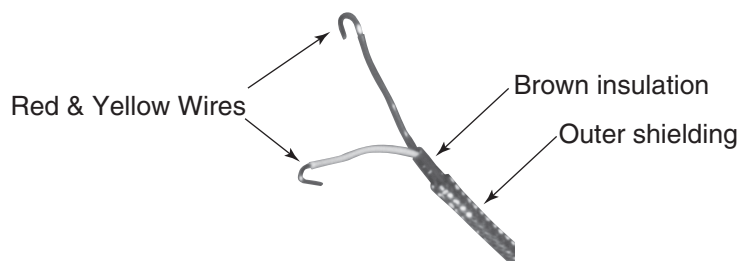

Figure 4. Wires ready for connector
- Bend the bare wire to fit around the screws. The wire should now look like Figure 4.